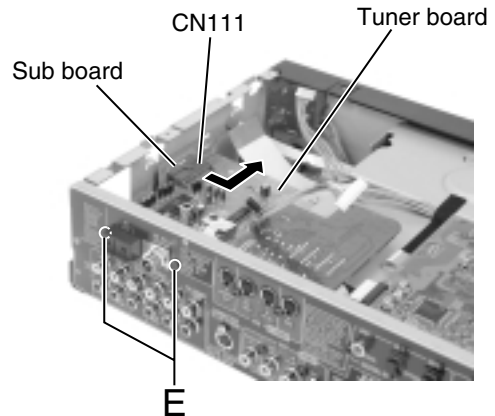

Fig.20
■Removing the tuner board / the sub board (See Fig.20 and 21)